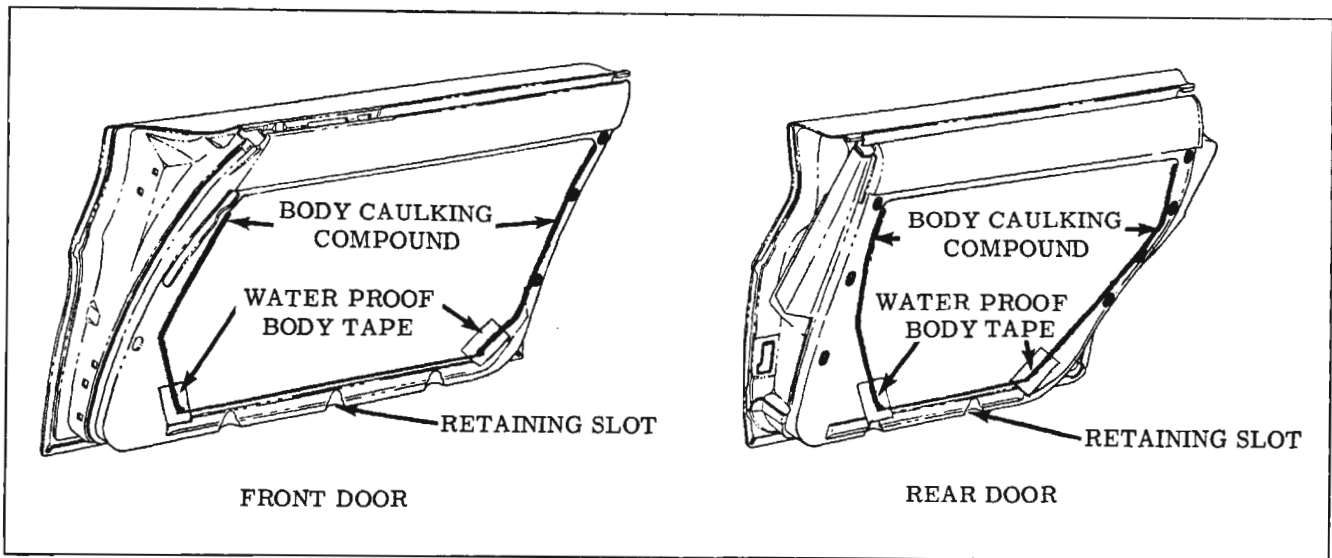

Fig. 16-237 Door Inner Panel Water Deflector Installation
2. Remove strips of waterproof body tape securing lower corners of water deflector. (Fig. 16-237)
2. If a new water deflector is to be installed, use old water deflector as a template, trim new deflector to proper size and cut holes for door inside hardware. If old sealer does not effect a satisfactory seal, apply a bead of body caulking compound (approximately 3/16" diameter) to inner panel at unsealed areas. (Fig. 16-237)
4. Seal lower corners of deflector with 2" or 2-1/2" waterproof body sealing tape. (Fig. 16-237)